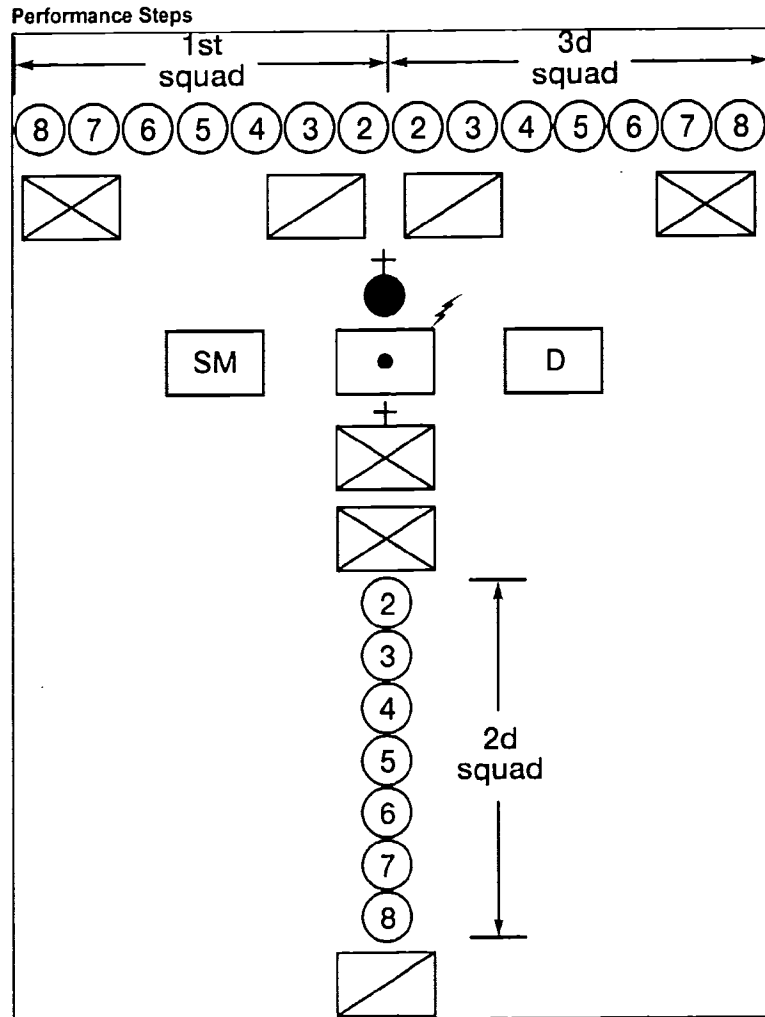

Figure 191-379-5400-3. Platoon Line with One Squad in Support in a Single Column
3. Form the platoon in a platoon line with one squad in lateral support (figure 191-379-5400-4).